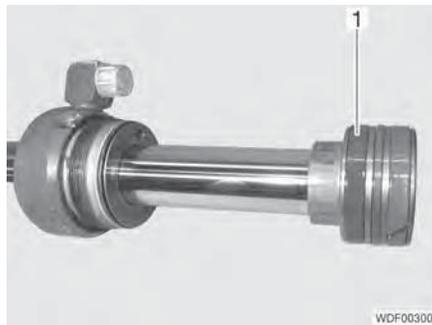

Fig. 104 Guide rings
- Remove the 2 guide rings (Fig. 104,1).
- Insert the 2 guide rings (Fig. 104,1).